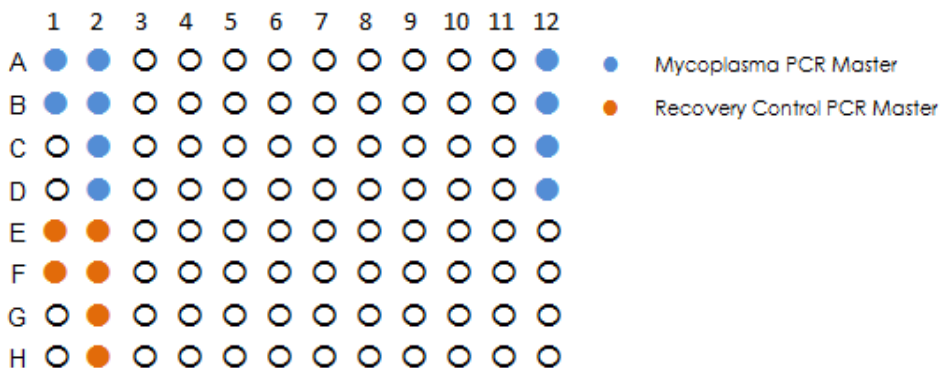
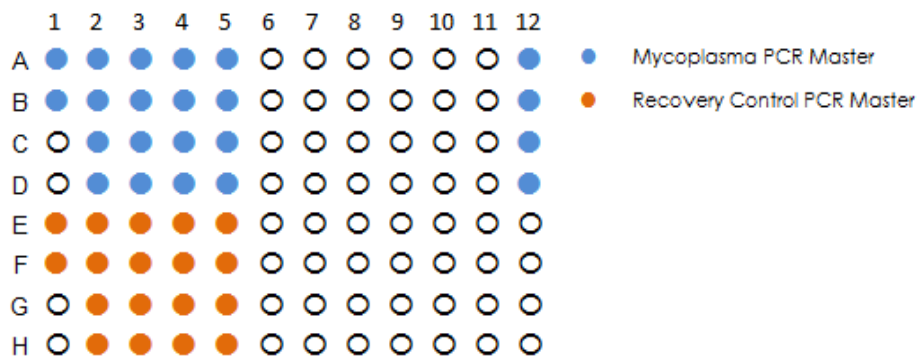

Fig. 2a: Plate configuration proposal for one sample per plate.
Fig. 2b: Plate configuration proposal for more than one sample per plate, for example, four samples per plate.
The figures below illustrate an example of a plate setup for only one sample (Figure 2a) and for more than one sample (Figure 2b), including all standards and controls.
- 6 For the plate setup (Figure 2a), prepare the two different master mixes according to the table below. Use nuclease-free, DNA-free vials.